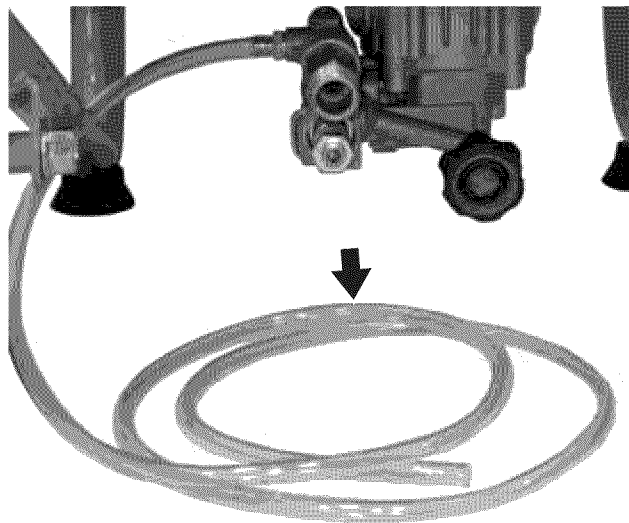

Figure 69 – Soap Siphon Hose WP2800 Shown
1. Remove the soap siphon hose (see Figure 69) from the soap container (if it is immersed).